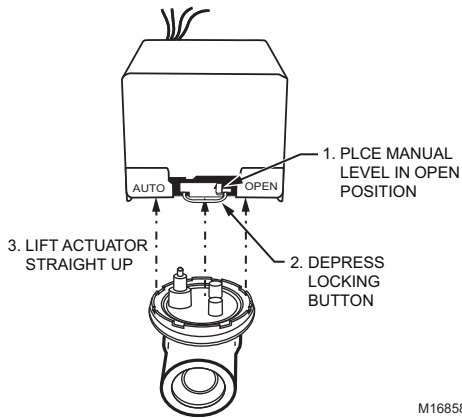

Fig. 4. Removing Actuator from Valve Body.
1. Align the parallel flat surfaces in double-D shaft of valve body with notch in side of body (i.e. 90° to water flow.) See Fig. 4. This makes actuator attachment easier.